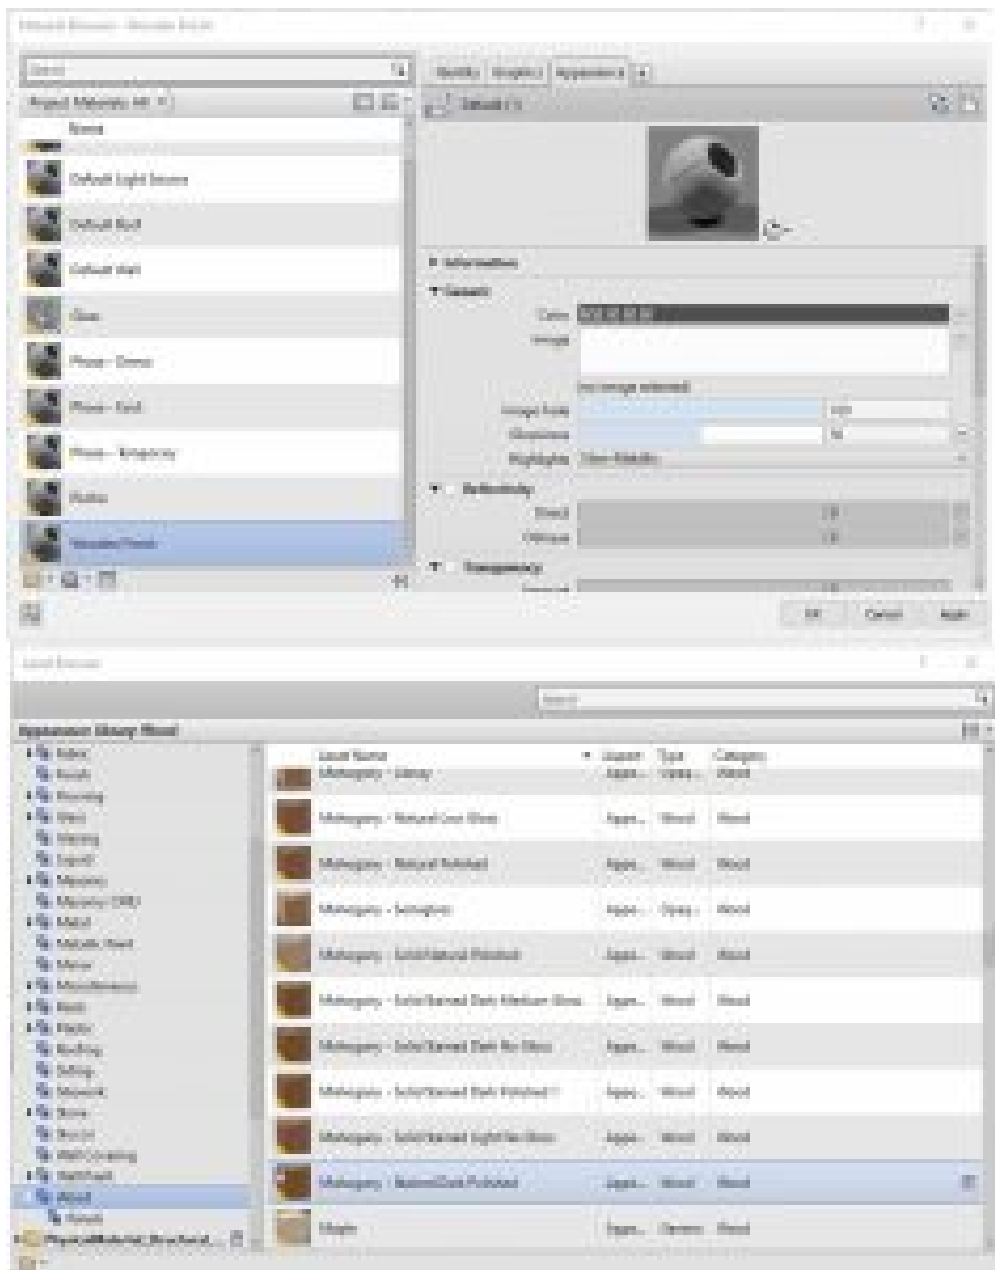

Figure 5.11 Material and Asset Browser window
2. Follow Figure 5.11 to create an 8" X 16" oval plate and an apple using the spline tool